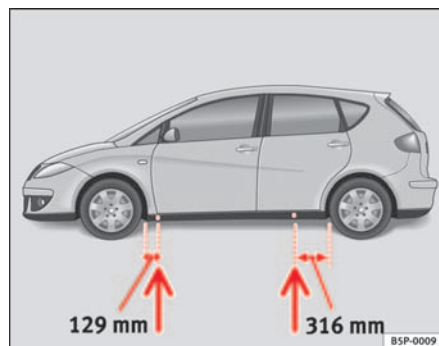

Fig. 167 The jacking points
- Locate the jacking point under the door sill closest to the wheel being changed ⇒ fig. 167
Recesses at the front and rear of the door sills mark the jacking points ⇒ fig. 167. A position has been made for each wheel. Do not fit the jack anywhere else.